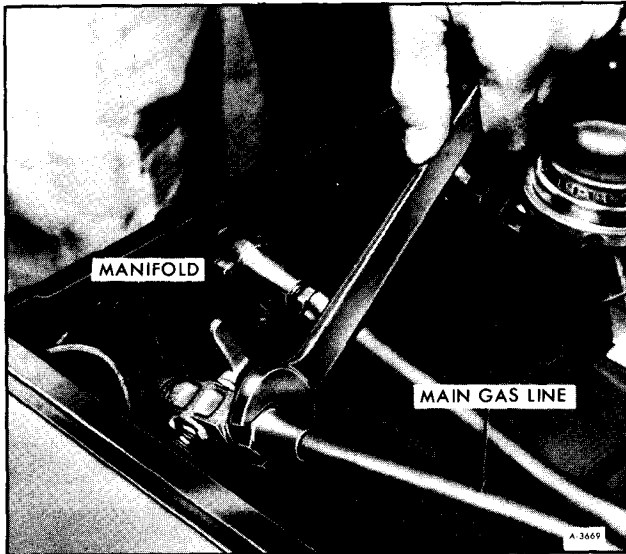

Figure 12—Disconnecting Main LP Gas Line
3. Disconnect main LP gas line from manifold (figure 12).